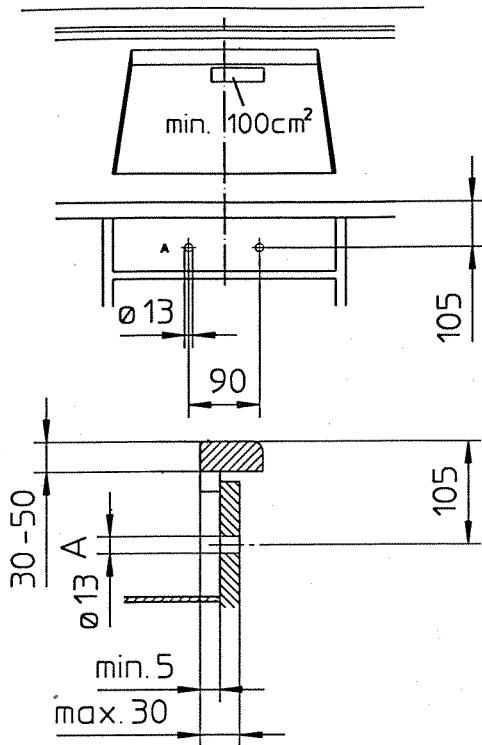

Fig. 4
3. In accordance with Fig. 4 and the drilling template, prepare the holes **A** (ϕ 13 mm) for the switch shafts in the front of the base cupboard. It is imperative to keep to the 105 mm distance from the top of the work surface to the middle of the hole **A**.